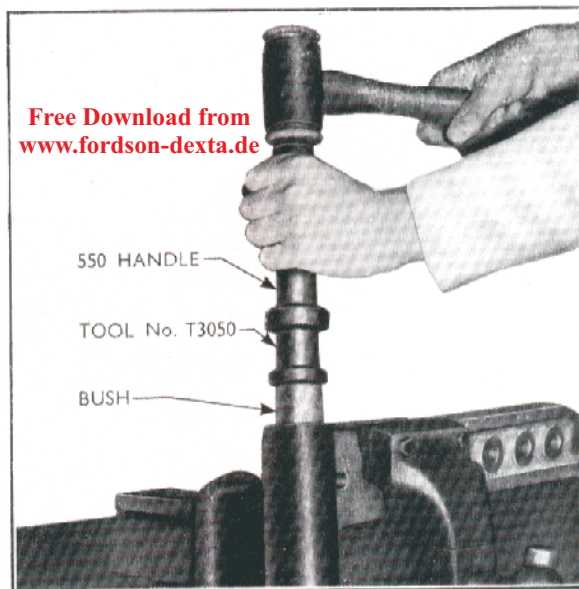

Fig. 6
1. Using Tool No. T.3050 and 550 handle, fit the new upper and lower bushes (see Fig. 6).